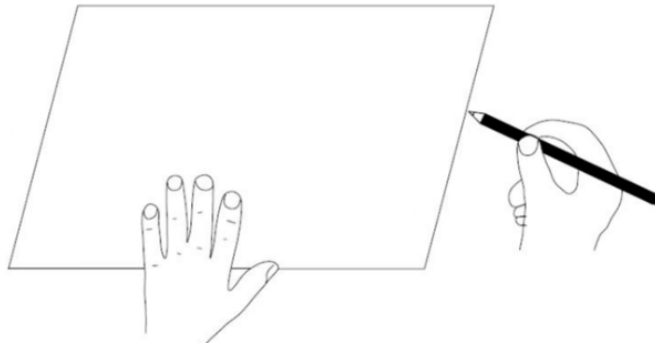

Fig. 4
3. Use the cut-out template card as a template. Place in the required location and mark out the hole cutting size: 500mm x 300mm. Before commencing cutting ensure that the area behind the intended location is clear of all cables, pipes and joists. Once clear, cut out the section along the previously marked lines. (Fig. 4)